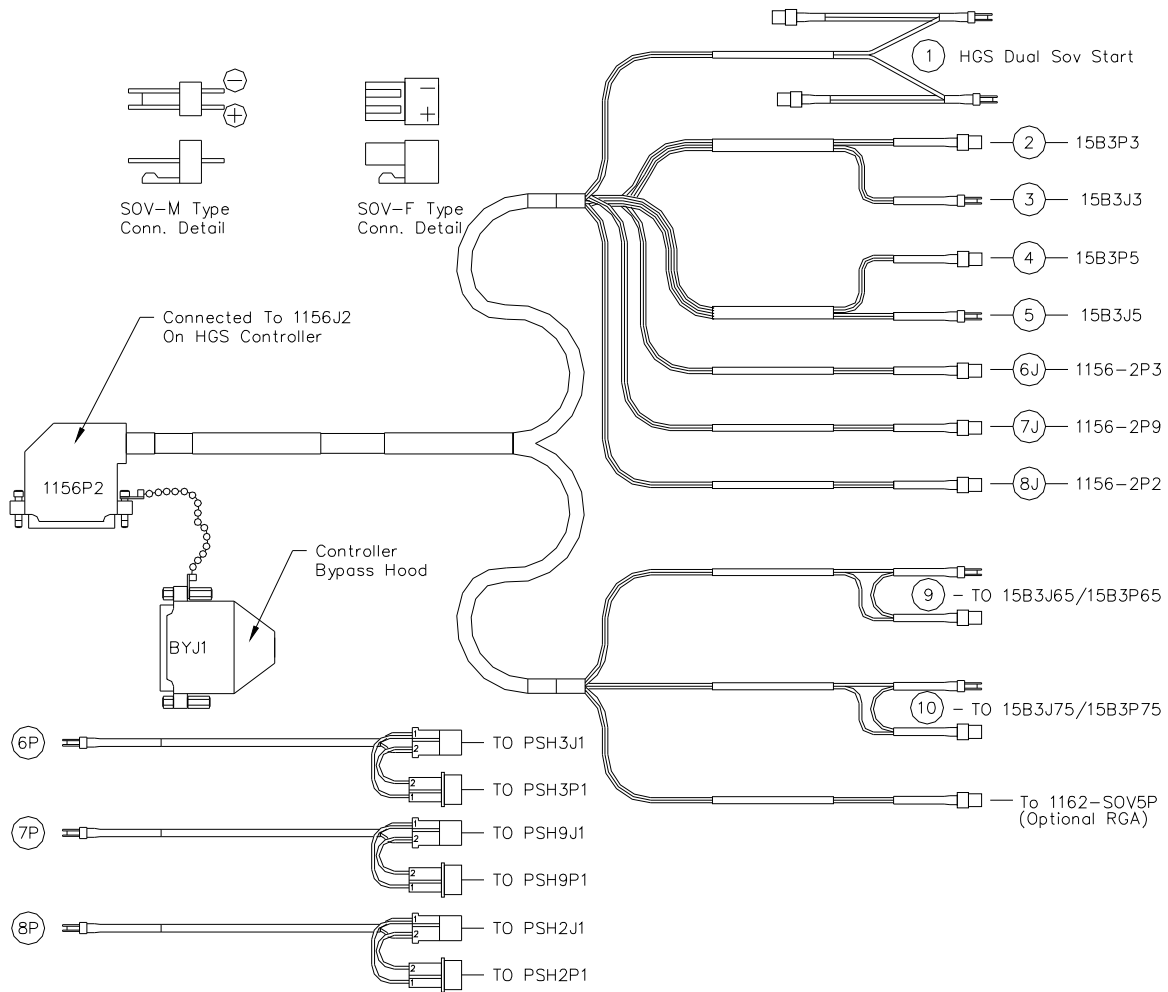

Figure 6-4: GAS-VAT Cable Harness Connections
The GAS-VAT Control Cable Harness provides control of the electro-pneumatic control valves controlling the Shower Head Purge, Gas Box Pressure Switches and the VAT valve during the HGS process. Table 6.2 and Figure 6-4 specify the 9600 TCP control connections required for this cable harness.
1. See Figure 6-4 for additional installation information.